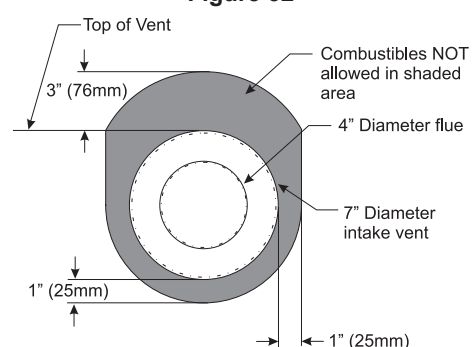

Figure 53
5. Install the Wall Firestop/Thimble assembly as required through the wall. Refer to the venting charts in the fireplace manual to determine the proper height and size of the vent opening. The minimum opening should be 9" wide by 11" high. The minimum combustible clearance from the horizontal vent is 1" from sides and bottom, and 3" above the vent pipe. **See Figure 53.**